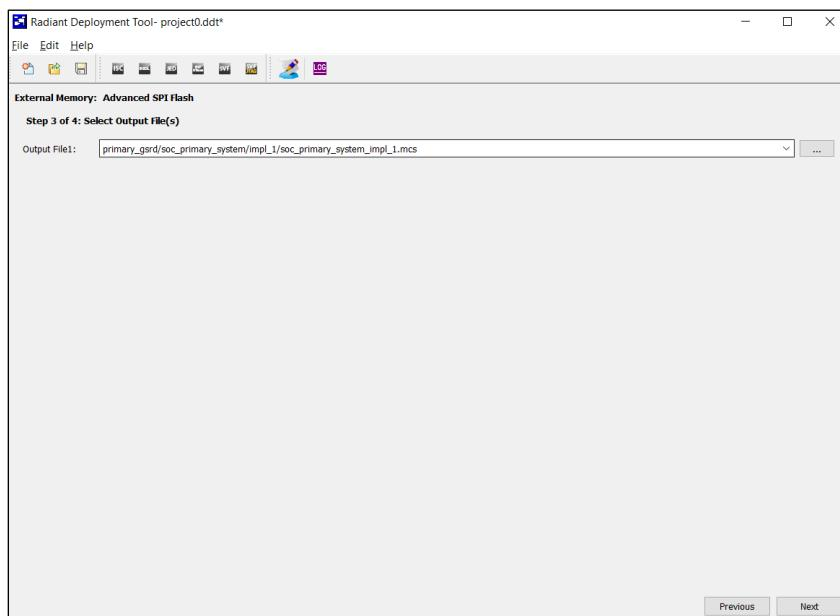

Figure 8.66. External Memory Step 3 of 4: Select Output File(s)
- 8. In Step 3 of 4: Select the Output File(s) as shown in Figure 8.66. Choose the location on your machine to generate an .mcs file.